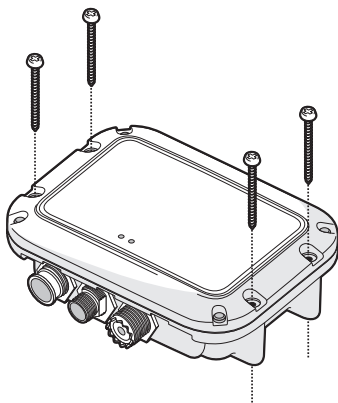

Figure 6 AIS receiver mounting
- The product is supplied with four self tapping screws for attachment of the AIS receiver to a suitable surface. Please refer to Figure 6 for guidance.